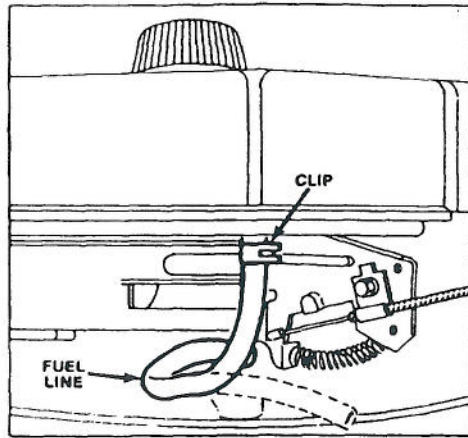

Figure 16
2. Squeeze ends of fuel line clip (Fig. 16) and slide clip down fuel line. Carefully pull fuel line off fitting and allow gasoline to flow into drain pan (Fig. 16).